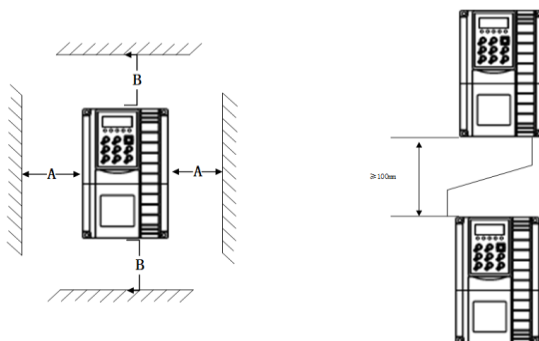

Figure 3-1 Schematic diagram of installation
1) Please install the inverter vertically to facilitate the upward heat dissipation. But not upside down. If there are more frequency converters in the cabinet, it is best to install side by side. Where upper and lower installation is required, please refer to the schematic diagram in Figure 3-1 to install the heat insulation deflector.
2) The installation space shall be as shown in Figure 3-1 to ensure the heat dissipation space of the inverter. However, please consider the heat dissipation of other devices in the cabinet when arranging.